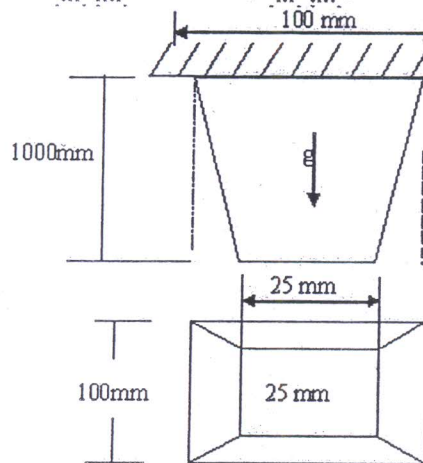

Figure.3
3. Determine the deflection at the free end under its own weight using three elements shown in figure.3, $E = 200\text{Gpa}$ and $\rho = 7800\text{kg/m}^3$. [15]